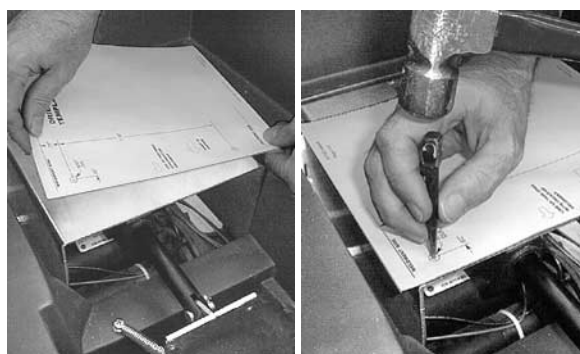

FIG. 3
5. Place drilling template onto weldment as shown, refer to instructions on template for proper positioning. With template in position, use a center punch to mark the (2) hole centers. Drill out holes using 9/32" drill bit (Figure 3).
1. Place drilling template onto weldment as shown on figure 3 of the instructions. Align the side marks on this template with the sides of the weldment. Align front edge of template with front edge of weldment.
2. Use a center punch to mark the (2) hole centers.